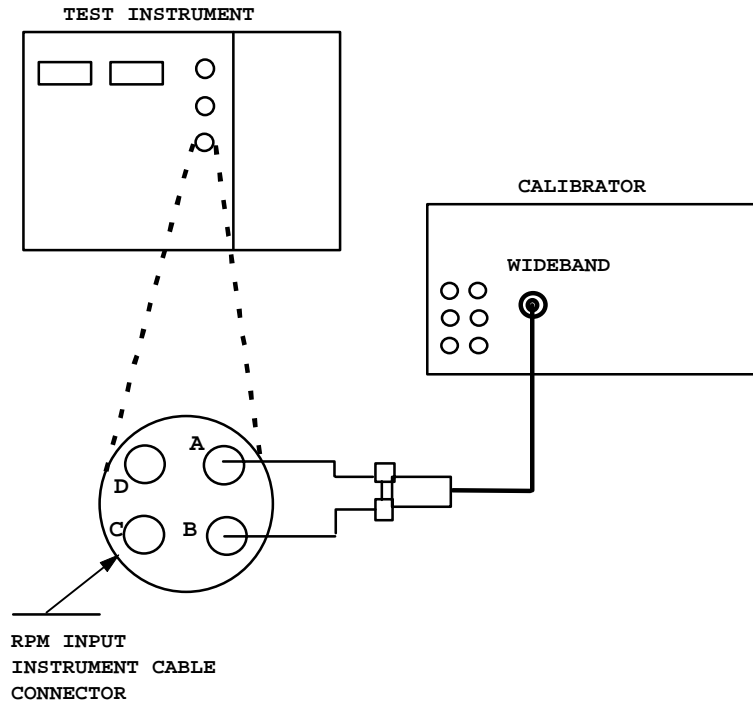

Figure 5. % RPM indicator.
(1) Set **RPM** switch to **CAL 100% RPM** and adjust **RPM CAL ADJ** control for **100.0** indication on **% RPM** indicator.
(2) Set **RPM** switch to **N1**.
(3) Short pins A and B on **RPM INSTRUMENT CABLE** receptacle, using test probe hooks.
(4) If **% RPM** indicator does not indicate **.0** or **.1**, perform **b (1)** through (3) below.
(5) Set **RPM** switch to **N2**.
(6) Remove shorting connection from pin A, and connect to pin C on **RPM INPUT INSTRUMENT CABLE** receptacle.
(8) Remove short from pins B and C and connect equipment as shown in figure 5.